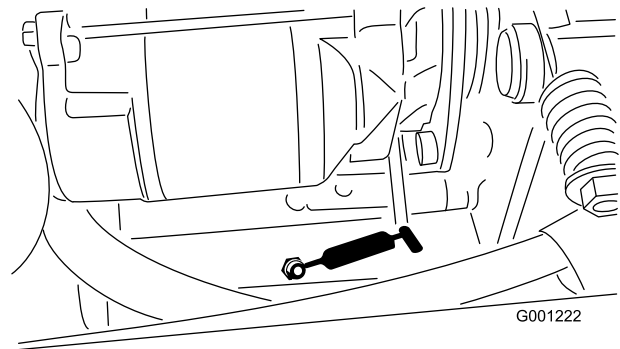

Figure 42
- PTO tension pivot (Figure 42)
- Rear PTO bearing (Figure 42)